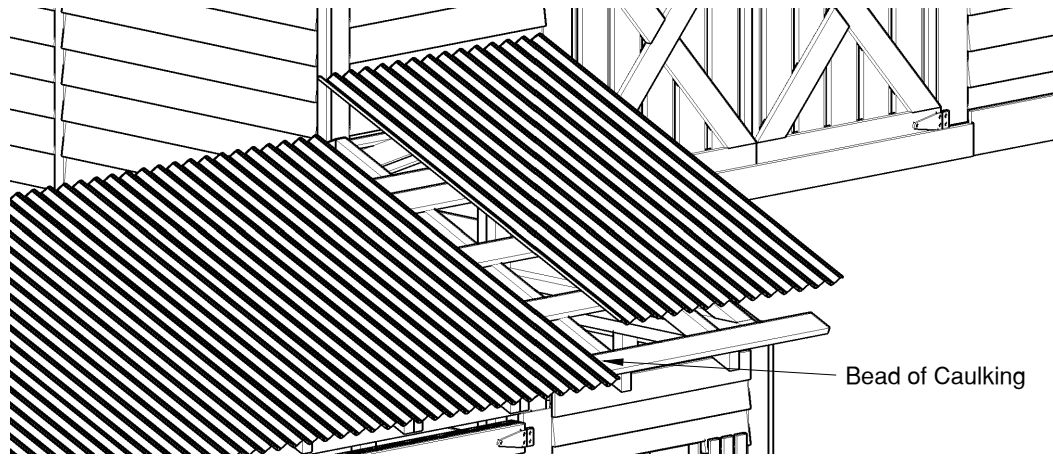

FIGURE S6
- Once Metal Roof Panels are placed correctly from side-to-side and top-to-bottom, lift panels up and run a bead of caulking down the overlapping seams of each panel to seal the joints. Figure S6